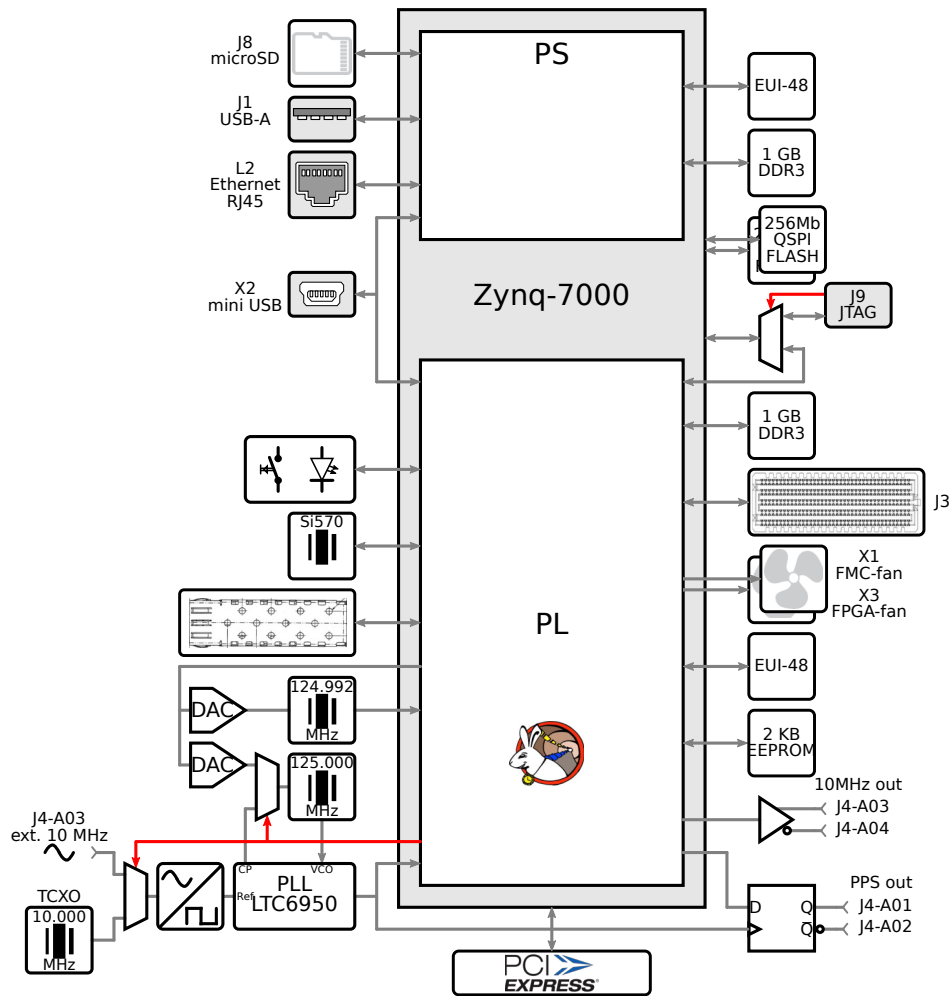

Figure 1: SPEC7 block diagram.
Xilinx Zynq-7000 devices contain a Processing System (PS) and Programmable Logic (PL). Both PS, PL and their respective connections are shown in the SPEC7 block diagram (figure 1).